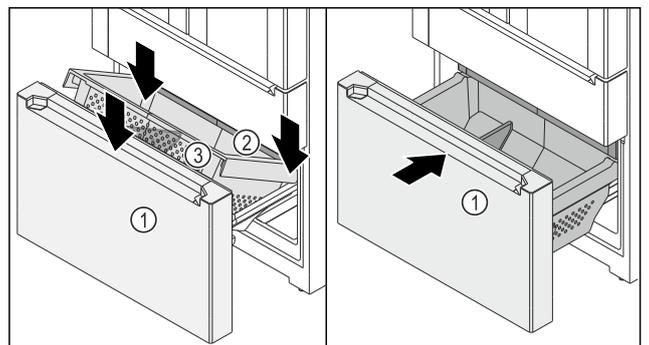

Fig. 154
- Telescopic unit Fig. 154 (1) is pulled out.
- Drawer Fig. 154 (2) is pushed in.
- ▶ Place the container Fig. 154 (3) at the rear on the rails on the right and left.
- ▶ Lower the front of the container Fig. 154 (3) so that the container Fig. 154 (3) encloses the rails on the right and left.
- ▶ Push in the telescopic unit Fig. 154 (1).